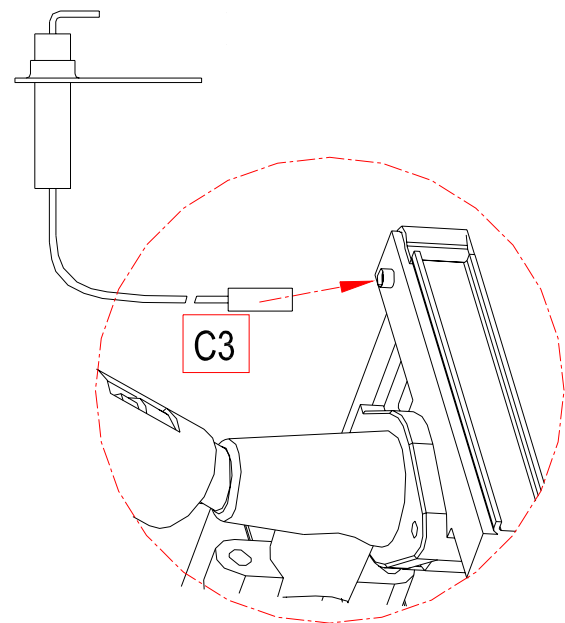

Fig 14d
4. Put the side burner electrode wire (C3) into the side burner valve electrode as fig 14d.